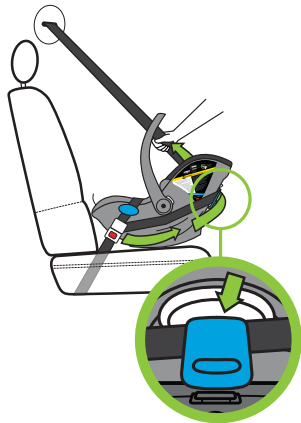

Figure 68
- With one hand firmly holding the shoulder belt so it doesn't retract, wrap the shoulder belt around the back of the Carrier with the other hand, and tuck the shoulder belt into the blue Shoulder Belt Guide, as shown in **Figure 68**.